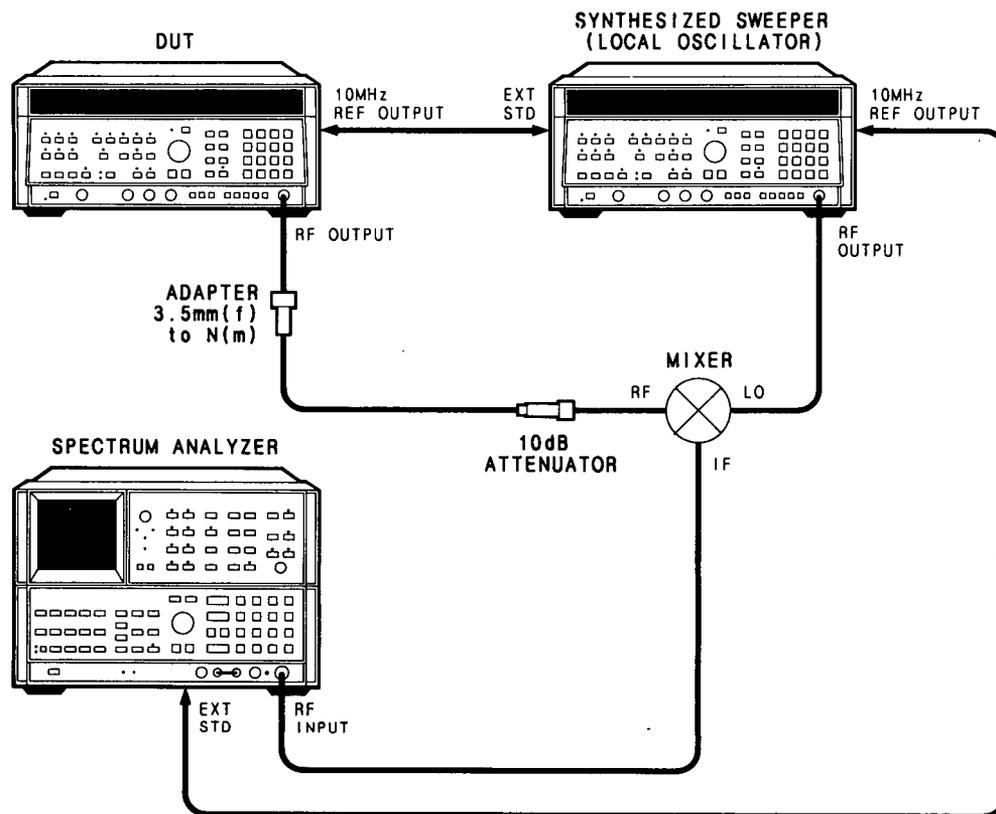

Figure 5-44. Unleveled Squegging Test Setup
58. Connect equipment as shown in Figure 5-44. Connect the mixer at the Local Oscillator's (LO) RF output connector to obtain maximum mixer LO input level. Set the LO and spectrum analyzer to external standard. Allow at least 30 minutes warm up time.